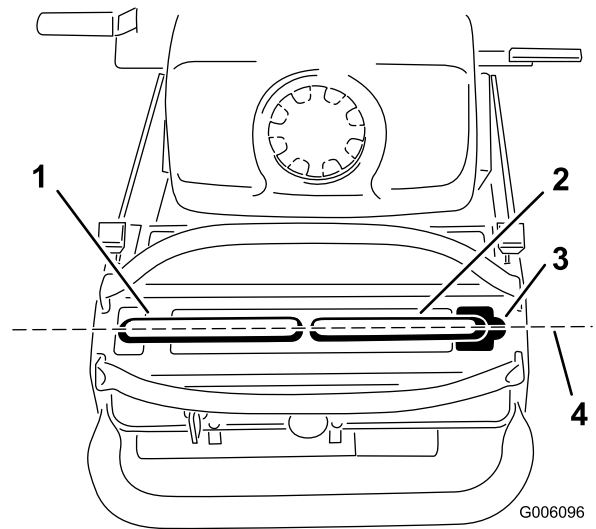

Figure 46
Important: Ensure the tracking of the mower is correct after adjusting the motion control levers. After adjusting the tracking, the motion control levers may not align the exactly front to back (Figure 46).
1. After the horizontal alignment is finished, check the front to back alignment (Figure 46).